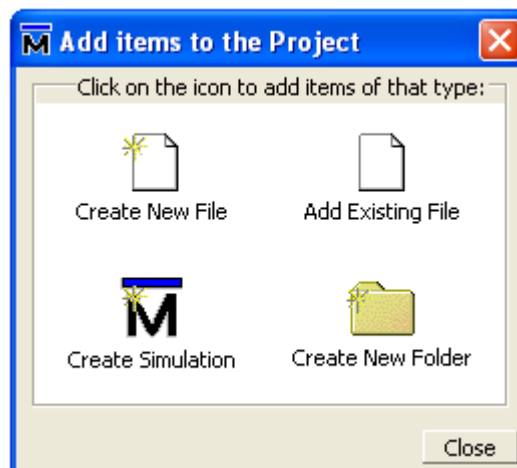

Figure 9 – Add items to the current project.
3. Add your existing files to your project. You can also select the creation of new VHDL files but here you are required to simulate pre-existing units, then press *Add Existing File* (Figure 9).